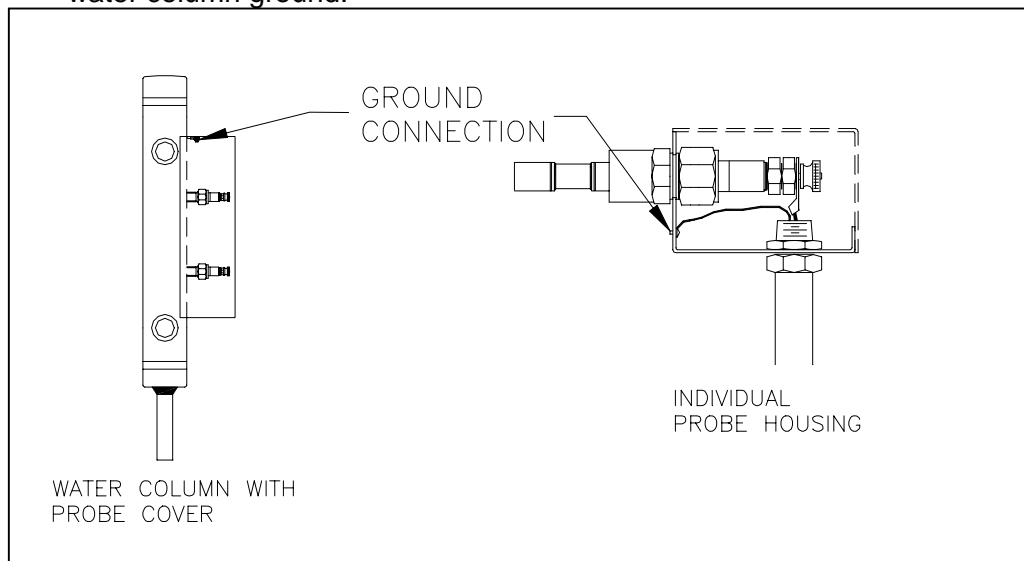

Figure 2 - Ground connection location
2.6 Probe Housing (refer to Fig 2)